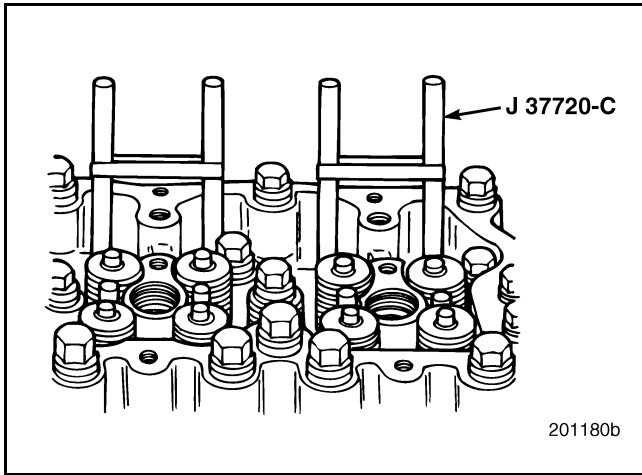

Figure 450 — Valve Lifter (Tappet) Holder Tool J 37720-C
2. Secure the lifter in the UP position with grommets provided with the tappet holders. The holding tool shafts of two adjacent valve lifters can be prevented from dropping by wrapping a rubber band around the two shafts. This draws the shafts together and holds them in position. Refer to Figure 450.
4. Secure the lifter in the UP position with grommets provided with the tappet holders. The holding tool shafts of two adjacent valve lifters can be prevented from dropping by wrapping a rubber band around the two shafts. This draws the shafts together and holds them in position. Refer to Figure 450.